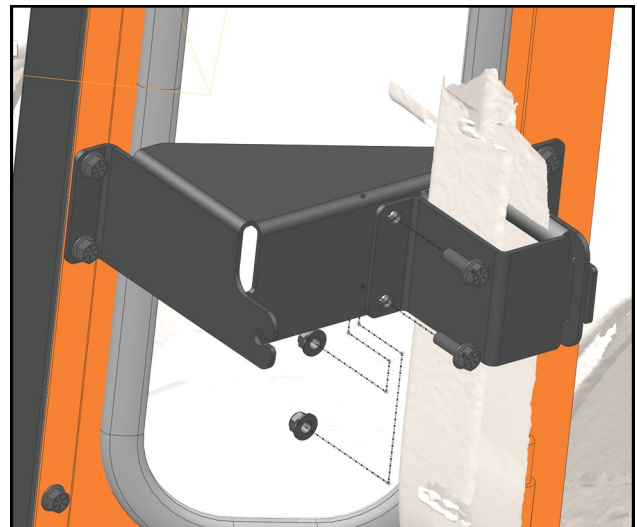

Fig. 4.3 (ROPS Bracket)
- 4.3** See fig. 4.3. Hook the ROPS bracket over the back of the ROPS mount, then bolt the front of the bracket to the mount with two bolts and nuts.